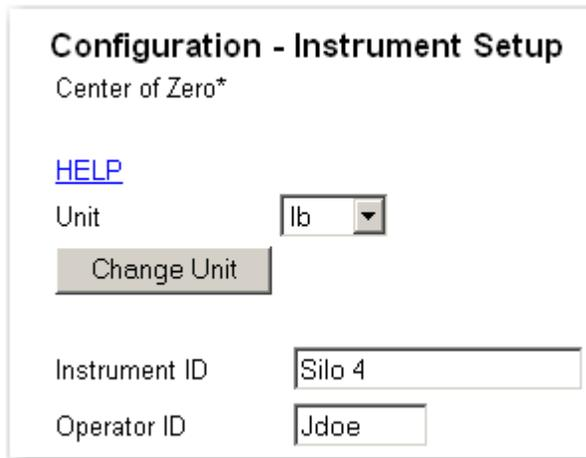

FIG. 191 INSTRUMENT & OPERATOR ID
Step 1. Click in the Instrument ID text field. (See Fig. 191)